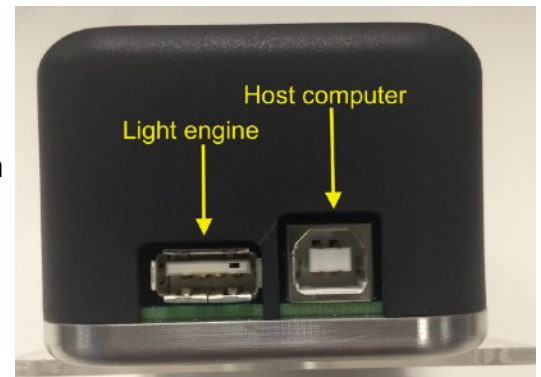

Figure 6. USB connectors on the rear of the light engine control pod (83-10007).
4.5.1 Before starting up the Light Engine, use the USB A-to-USB B cable (29-10058) to connect the SOLA or SOLETTE to the control pod (Figure 6). The control pod is available for purchase as an optional accessory (p/n 83-10007).